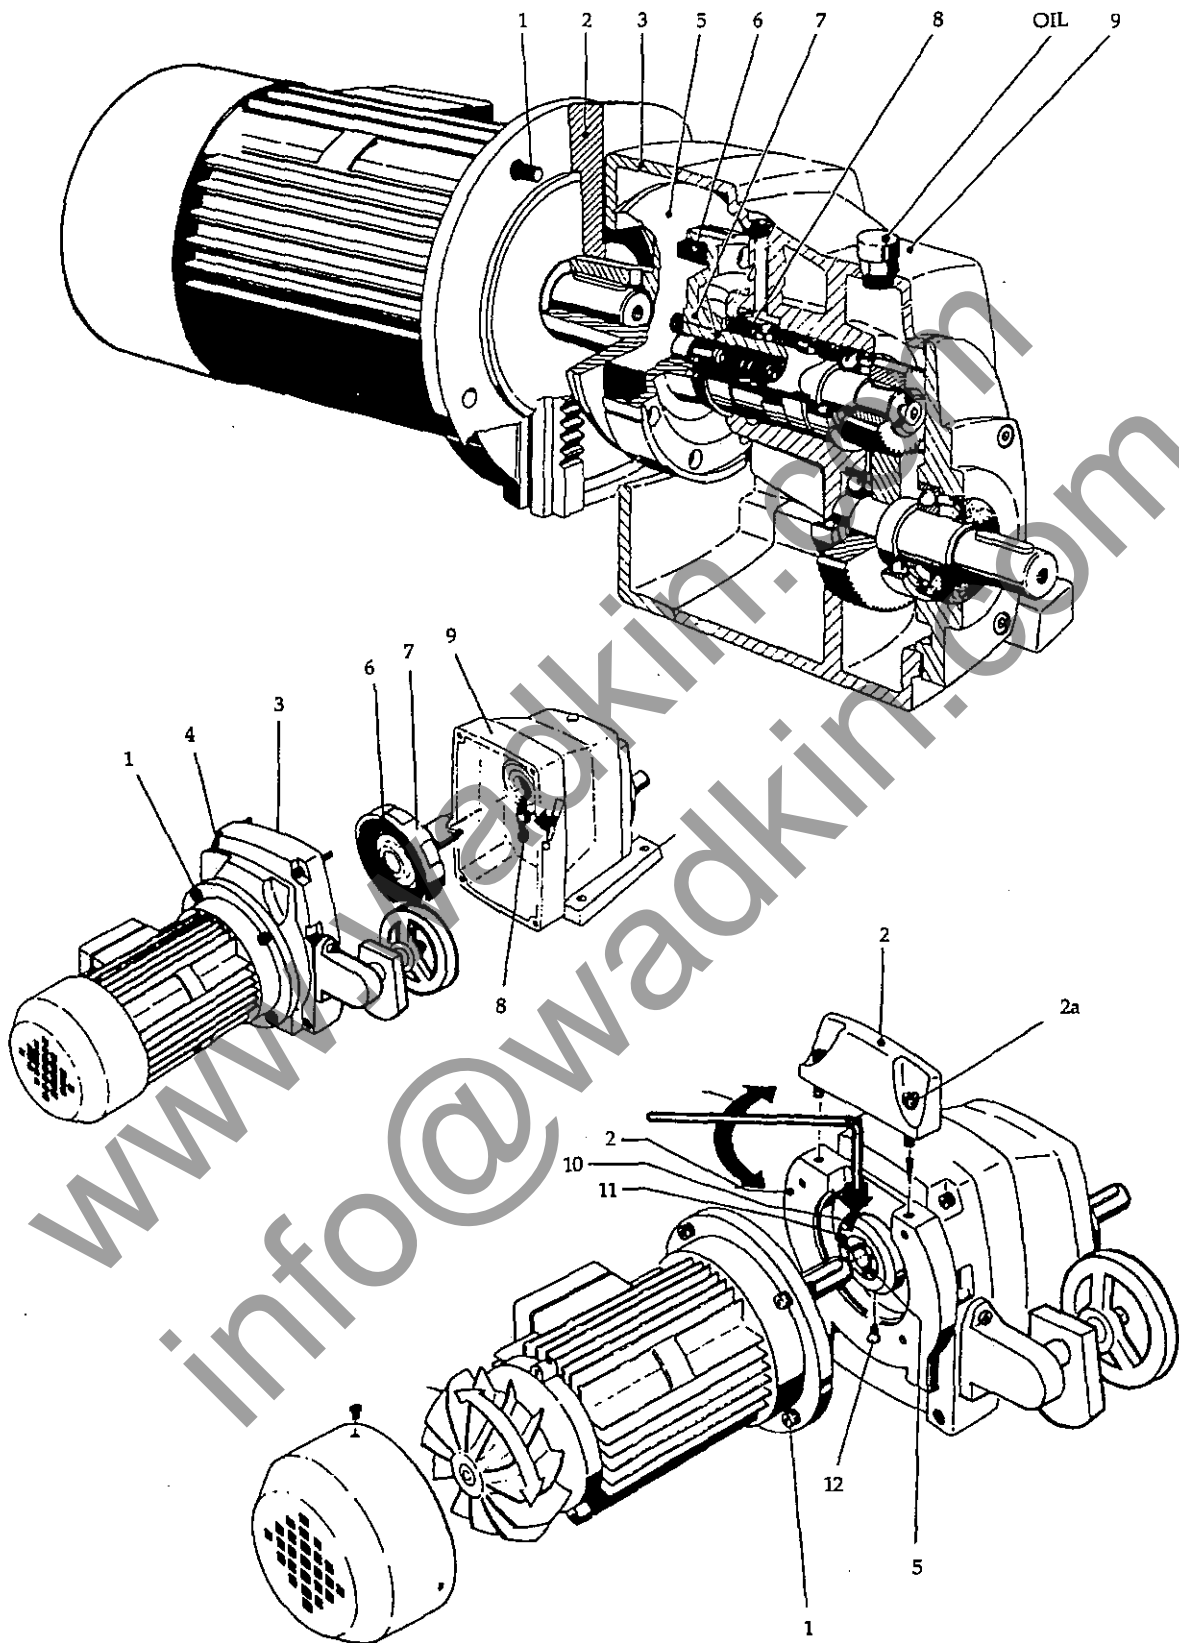

FIG 4 VARIABLE SPEED UNIT
#### Variable Speed Unit (Fig 4)
Attachment of motor to drive unit: (Fig 4)
- (1) Follow the reverse procedure of motor attachment.
- (2) Remove the drive motor from the unit by removing the four set screws (1) attaching the motor to the unit mounting slide (2).
*To clean/replace the friction ring: (Figs 4, 5)*
- (1) Remove the four setscrews (4) from the motor side casing, separate the two sections (3) and (9). Check the friction ring (6) for oiling or wear.
- (2) If oiled up; degrease the cone (5) and friction ring (6) surfaces with degreasing fluid. Clean with soft paper tissue to remove all traces of oil.
- (3) If the friction ring (6) is worn down to the screw heads or its metal mounting flange (7), it must be replaced.
- (4) If oil is passing along the shaft, the oil seal
- (1) Remove the motor/split the gearbox assembly as for **Clean/Replace Friction Ring**, (Figs 4, 5).
- (2) Turn friction cone to the highest regulating position with the handwheel control. Check dimension 'a' at measuring point 'A' with a depth gauge.
- (3) Compensate for differences by turning the cone or adding shims at position indicated.